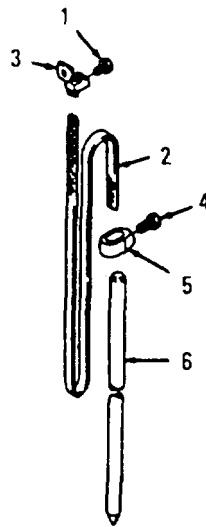

Figure 4-30. Ground Rod and Attaching Hardware
a. Removal (Refer to Figure 4-30)
- (1) Loosen screw (1) securing ground cable (2) to ground lug terminal (3).
- (2) Remove ground lug terminal (3) from ground cable (2).
- (3) Loosen hex bolt (4) securing ground cable (2) and rod clamp (5) to grounding rod (6).
- (4) Remove ground cable (2) and rod clamp (5) from grounding rod (6).